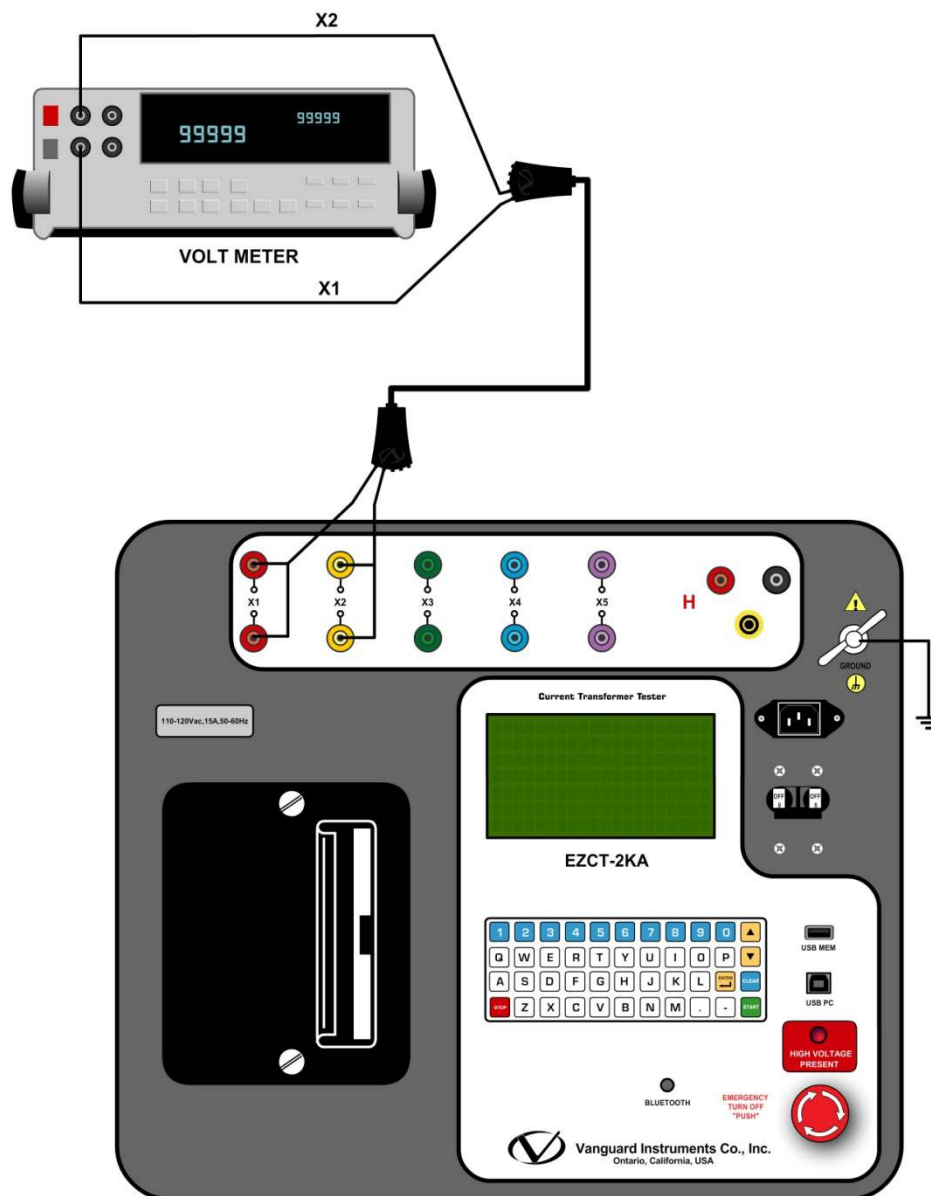

Figure 20. EZCT-2KA V_x Verification Test Connections
- Connect the X cables to an RMS volt meter as shown in Figure 20.